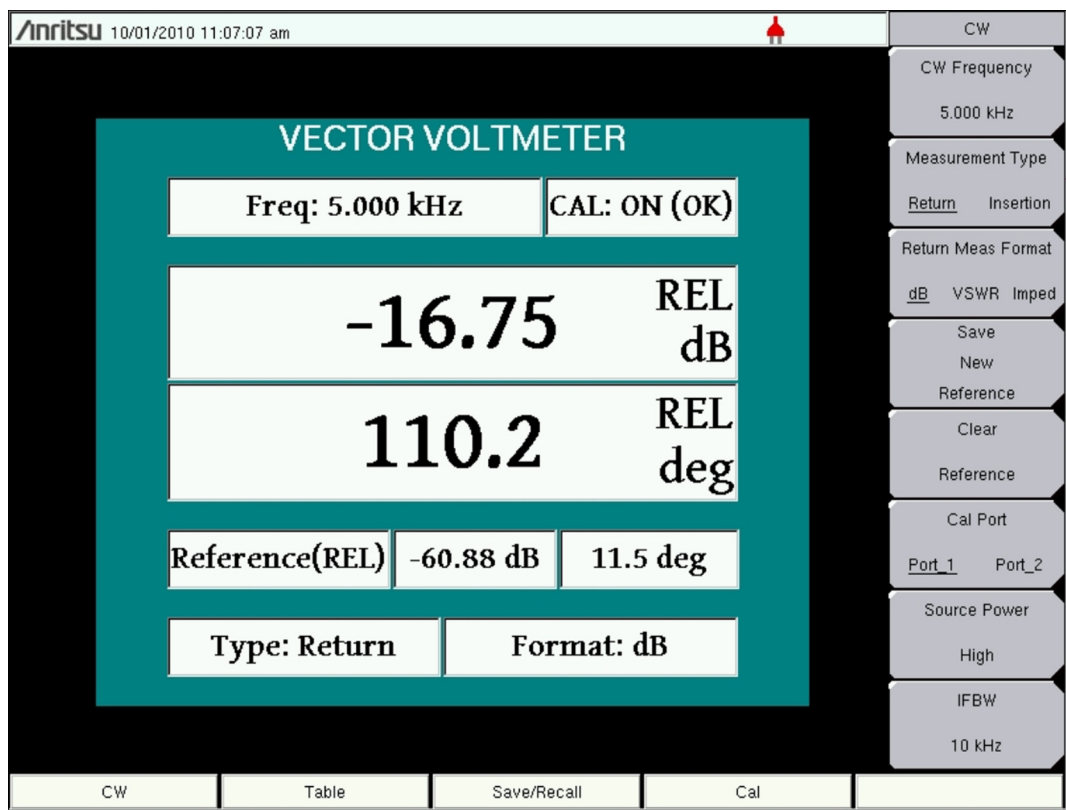

Figure 11-5. Continuous Wave Menu with Relative Measurements – MS20xxC VNA Master
- 4. As shown in Figure 11-5, the Vector Voltmeter saves the current measurement in a new reference window and converts the main measurement window to display the difference between the current measurement and the saved reference. In other words, saving a reference will normalize the results to the current measurement. When relative measurements are displayed, REL is indicated in the main measurement window.